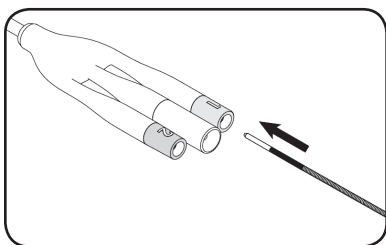

Figure 8. Insert the pin of the PNE lead into the Basic Trial Cable connector labeled "1" or "2".
2. Connect the lead to the desired connector on the Basic Trial Cable (**Figure 8**).